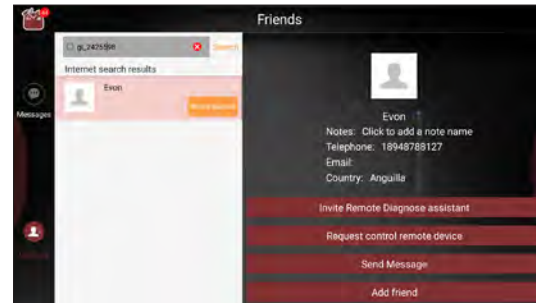
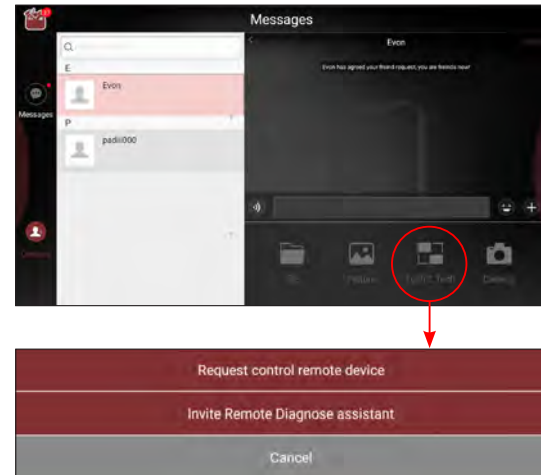

Fig. 6-6
Fig. 6-11
- A. If you do not add the partner as your friend, tap "Send Message" in Fig. 6-6 to enter a screen similar to the following:
- In case you do not add the partner as your friend, directly tap “Remote Diagnose” in Fig. 6-6 to enter Fig. 6-11.